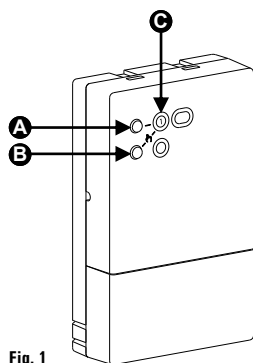

Fig. 1
LED (C in Fig. 1)
SELF-LEARNING BUTTON (A in Fig. 1)
MANUAL DRIVE BUTTON (B in Fig. 1)
- Switch on the receiver: the LED (C) blinks for a few seconds during the initialisation phase.
- Press the self-learning button for a second (A of Fig.1). The self-learning procedure is started: the receiver's LED will blink quickly yellow.